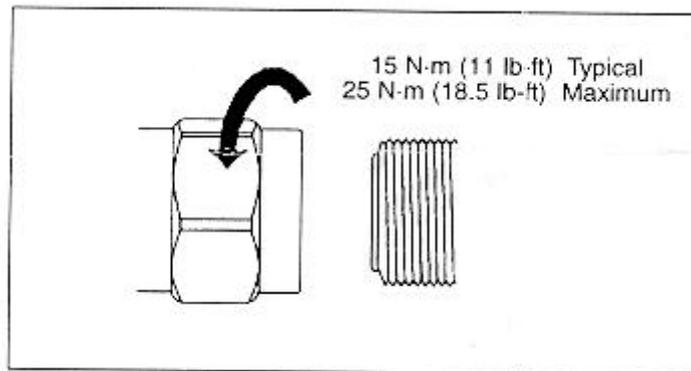

Figure C-9 Fitting torque
- 11) Fit torque, as shown in Figure C-9.